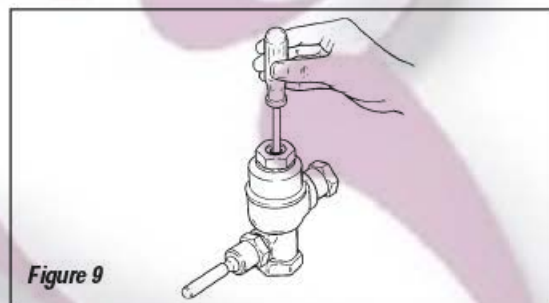

Figure 9
Step 6 - Volume Adjustment (Figure 9)